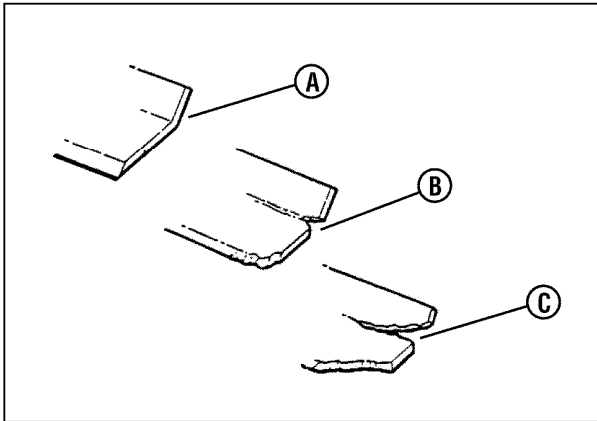

Figure 42: Mower blade wear limits
1. Inspect the blade frequently for signs of excessive wear or damage (Figure 42):
- (A) New blade;
- (B) Wear limit (notch starts);
- (C) Dangerous condition - do not use on mower!Replace with new blade.
5. Inspect the condition of the blade (Figure 42).